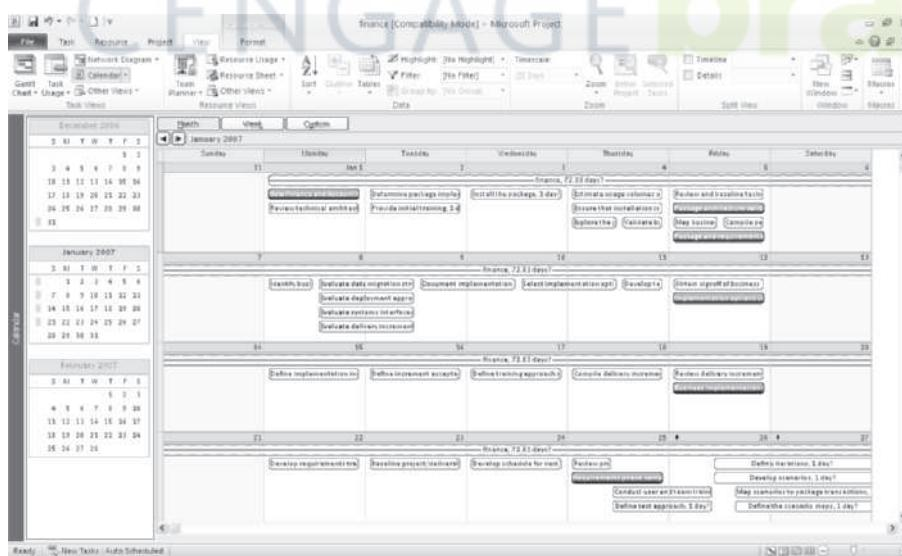

FIGURE A-10 Calendar view of finance file
3. Explore the Calendar view. Click the Calendar button ■ on the Ribbon. Your screen should resemble Figure A-10.